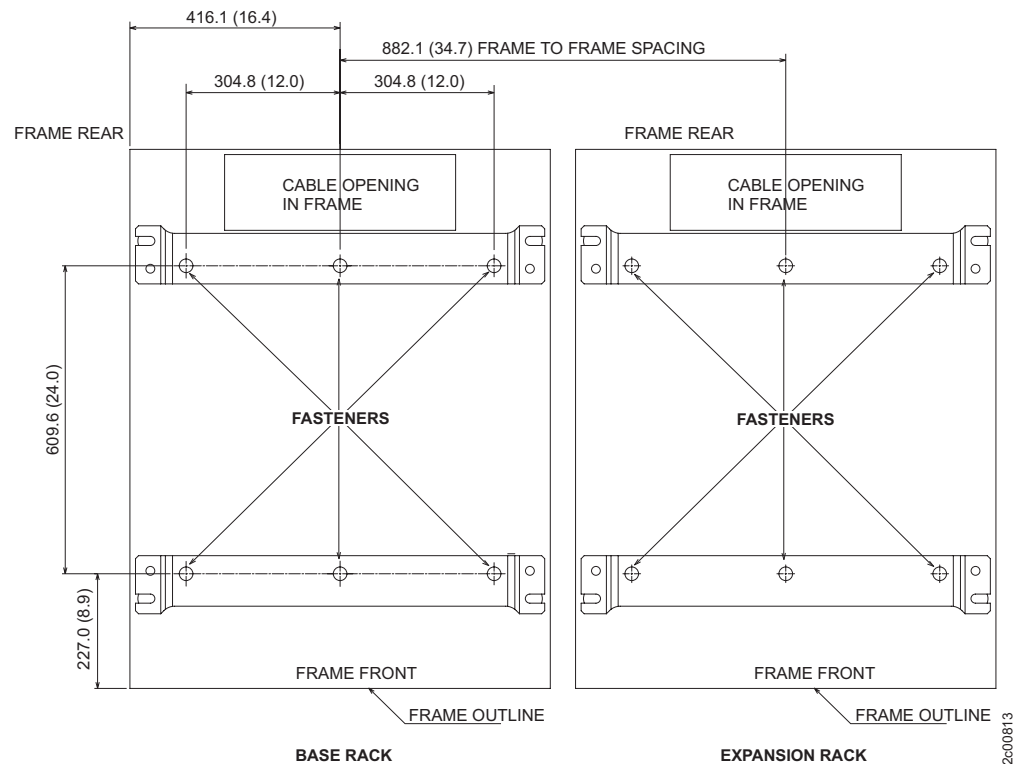

Figure 27. Locations for fastener installation (nonraised floor). The pattern repeats for up to five models. Dimensions are in millimeters (inches).
- Use Figure 27 to determine the placement of the fasteners.